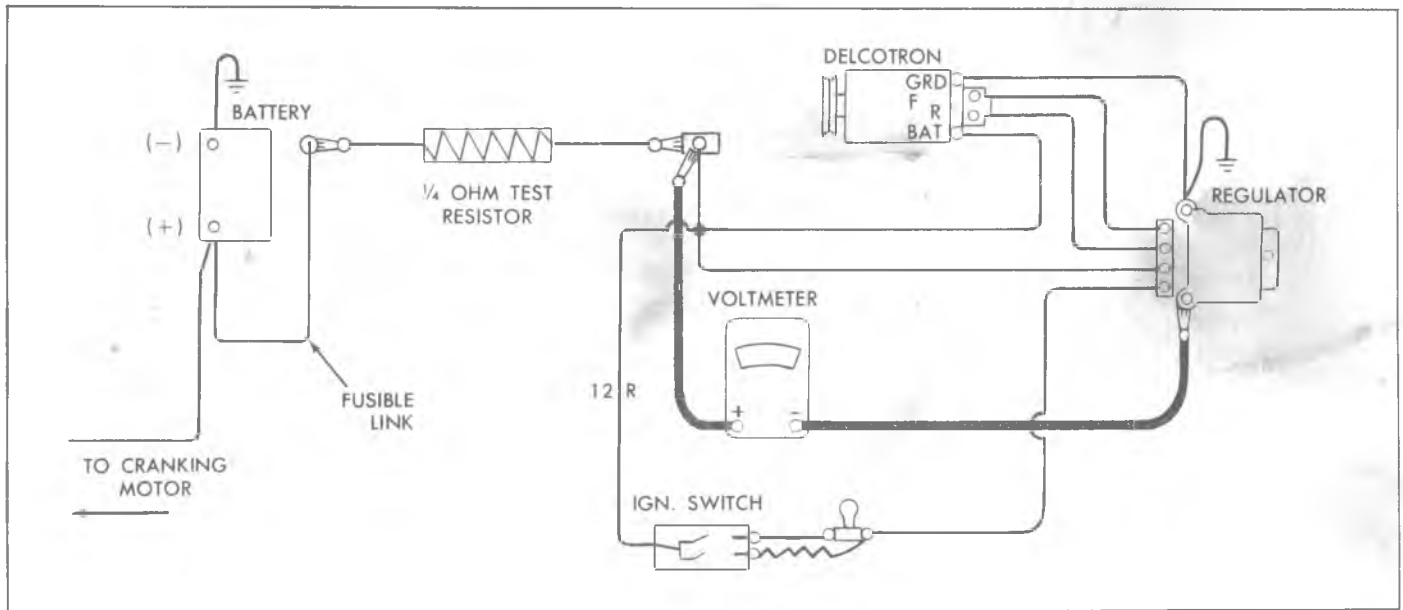

Fig. 4c—Voltage Setting Test Connection
7. Connect a 1/2 ohm-25 watt fixed resistor (purchased commercially) into the charging circuit at the junction block as shown in Figure 4c.